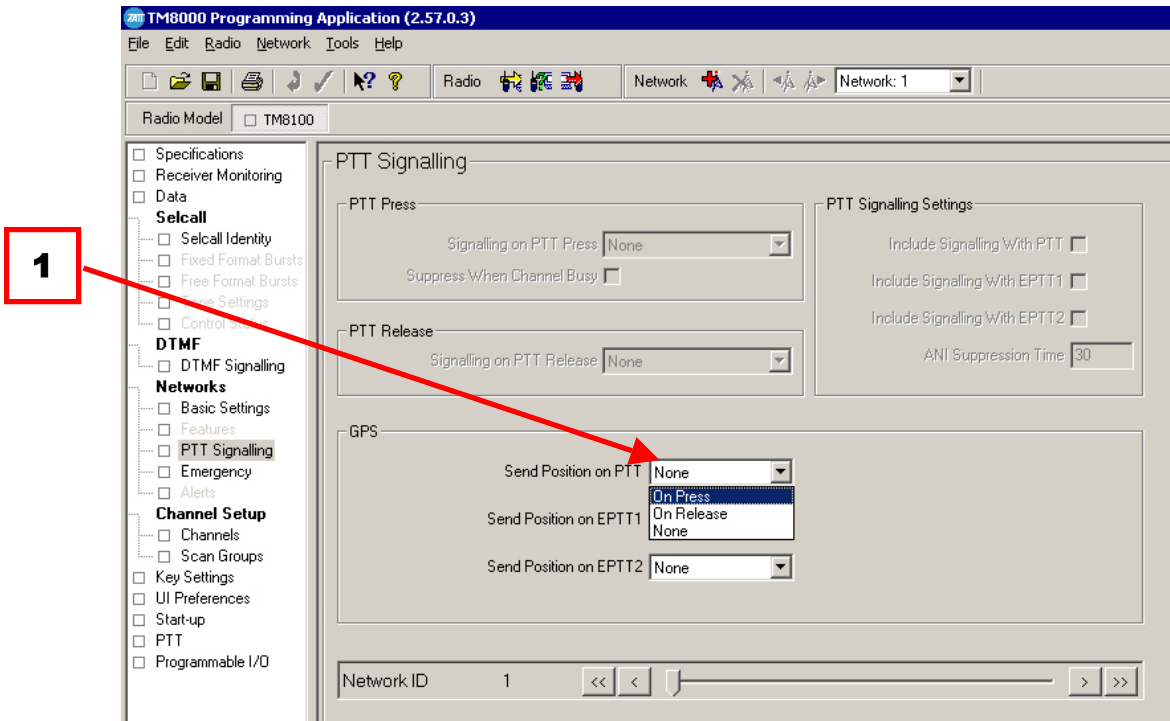

Fig 4: GPS ANI
1. GPS location information can also be sent as a leading or trailing ANI on any one of the 3 PTT's. (See Fig 4)